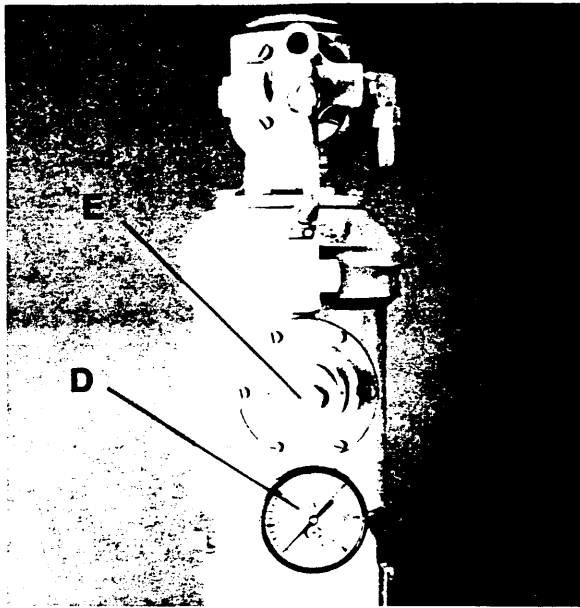

FIGURE 3
- A. Figure 3. Apply 40 psi supply pressure to unit. Cushion air, pressure gauge (D) should read 20 psi ($\frac{1}{2}$ the supply pressure). If it does not, adjust hexagon nut on regulator (E) until gauge reads correct pressure.